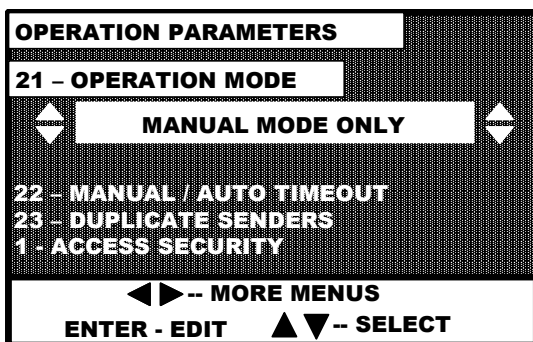

fig. 1
6. Touch **DOWN** or **UP** arrows to display “**MANUAL MODE ONLY**” (*fig. 1*)